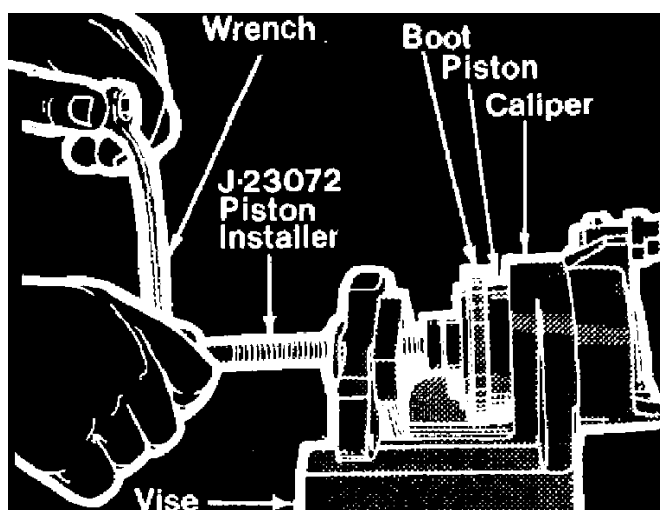

Fig. 5 Installing piston into caliper
6. With tool J-23072, push piston fully into caliper housing, **Fig. 5. The piston must be pushed straight into caliper to prevent damage to the actuator screw seal as it passes through hole in rear of piston bore.**